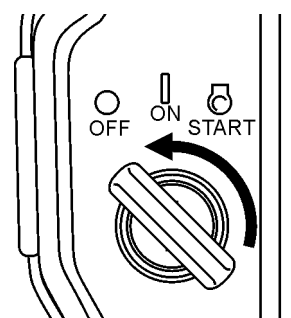

Figure 36. Ignition Switch (OFF Position)
- Turn the ignition switch (Figure 36) to the **OFF** position. The ignition switch must be turned off to prevent unwanted battery discharge.